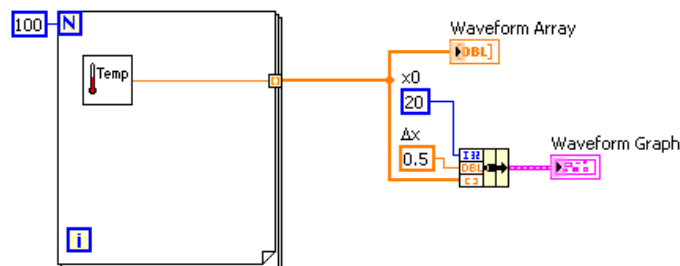

Figure 7.19
1. Modify the block diagram as shown in Figure 7.19.
- a. Place the **Bundle** function, located on the **Functions**»**All Functions**»**Cluster** palette, on the block diagram. This function assembles the plot elements into a single cluster. The elements include the initial x value (20), the $\Delta(x)$ value (0.5), and the y array of waveform data.
- d. Wire the block diagram as shown in Figure 7.19.